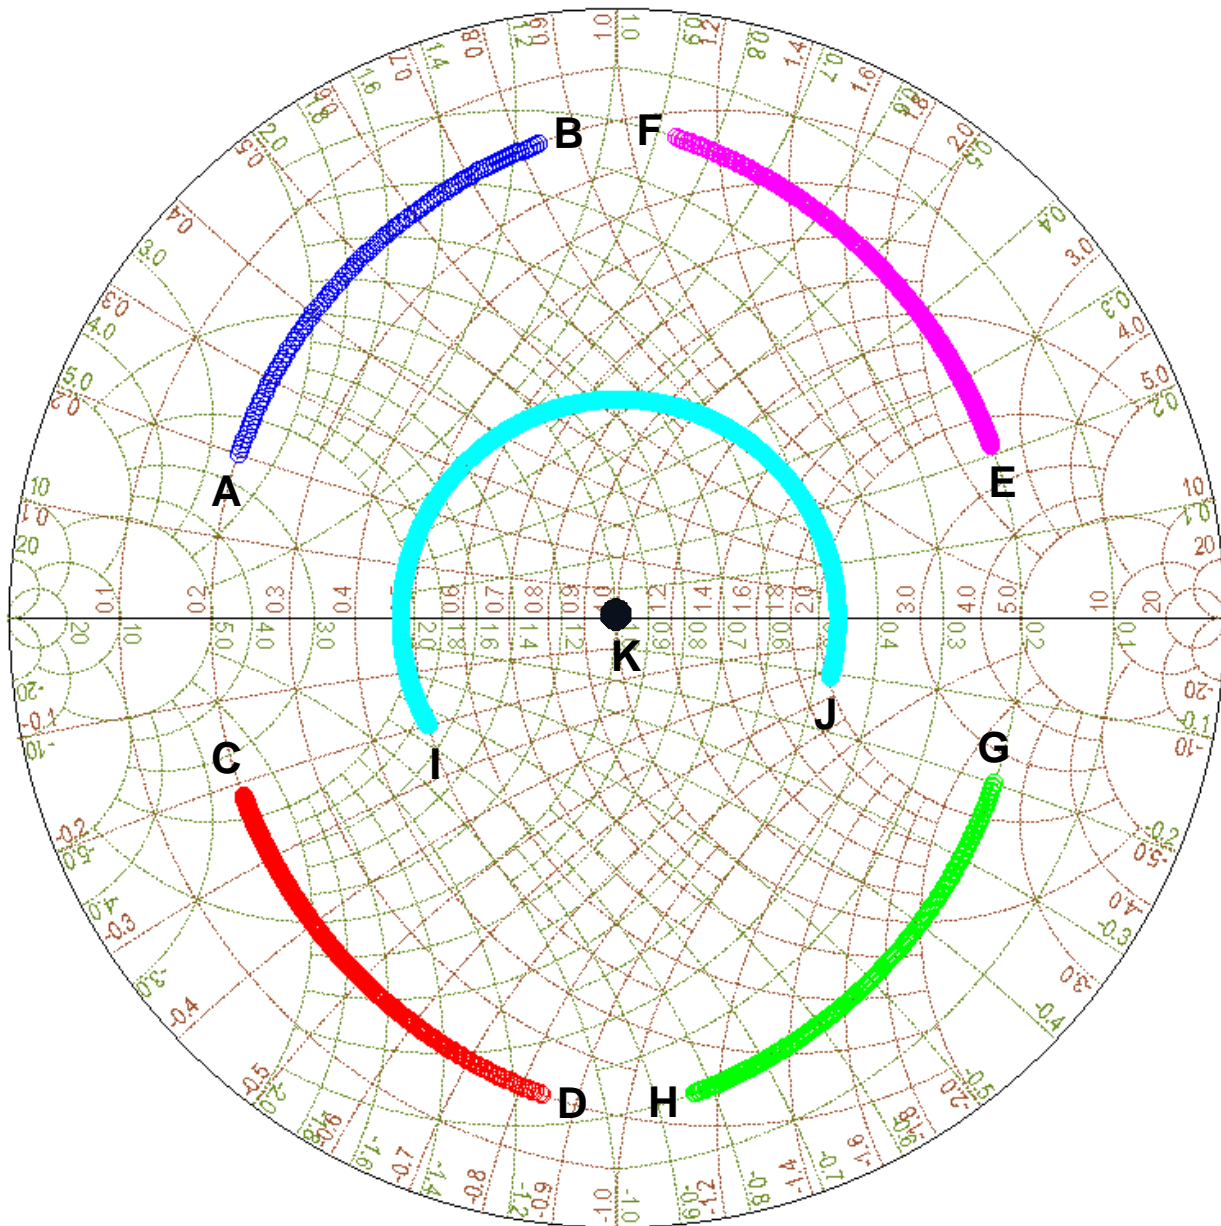

Figure 4. Overlapped Impedance and Admittance Smith Charts (Drawn by Agilent ADS)
In most wireless applications, the impedance matching is achieved using discrete components, such as inductor (Ind) and capacitors (cap), connected in series or shunt, or short transmission lines. Figure 4 is the overlapped Impedance Smith Chart and Admittance Smith Chart. The brown dotted curves are constant resistance (R) and reactance (X) where $Z = R + jX$, and the green dotted curves are constant conductance (G) and susceptance (B) curves, where $Y = G + jB$. The Smith Chart displays the normalized impedance or admittance, and at the central point, K, is the normalized impedance equal to one which represents a perfect impedance match. The impedance or admittance will be changed by connecting inductors, capacitors or transmission lines as summarized below: